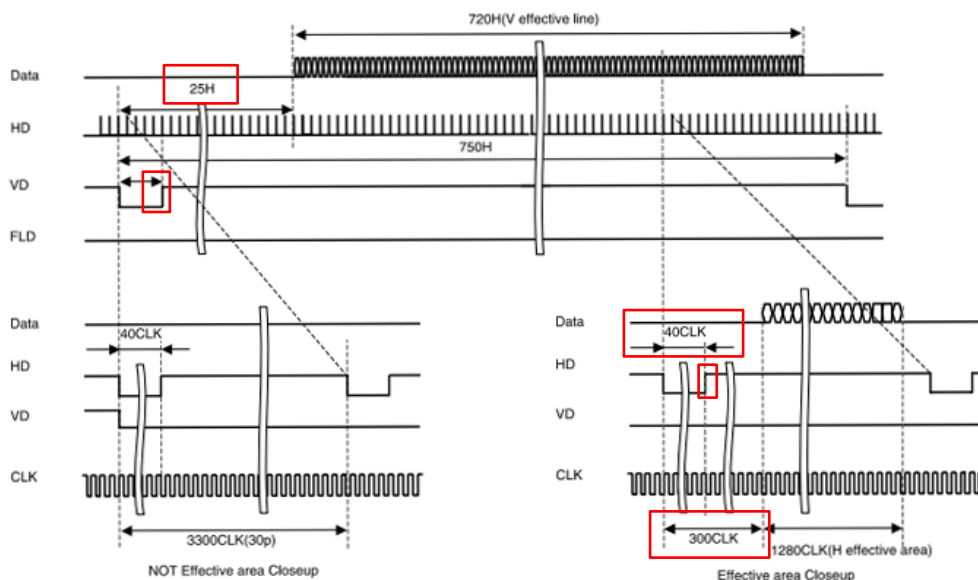

Figure 3: 720p/30 Output Timing Chart
- *Vertical Front Porch* and *Horizontal Front Porch* are determined from the FCB-EH6300 Timing Chart shown in **Figure 3**. The 1500-OEM triggers on the rising edge of V and H Sync.